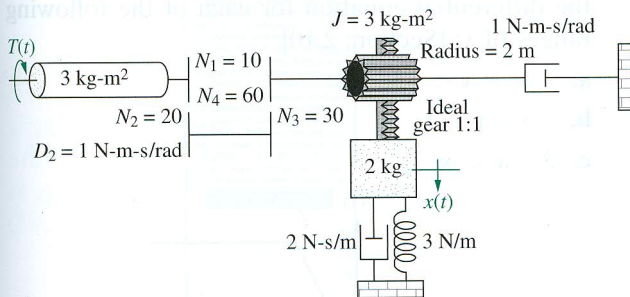

FIGURE P2.26
40. For the combined translational and rotational system shown in Figure P2.26, find the transfer function,  $G(s) = X(s)/T(s)$ . [Sections: 2.5; 2.6; 2.7]